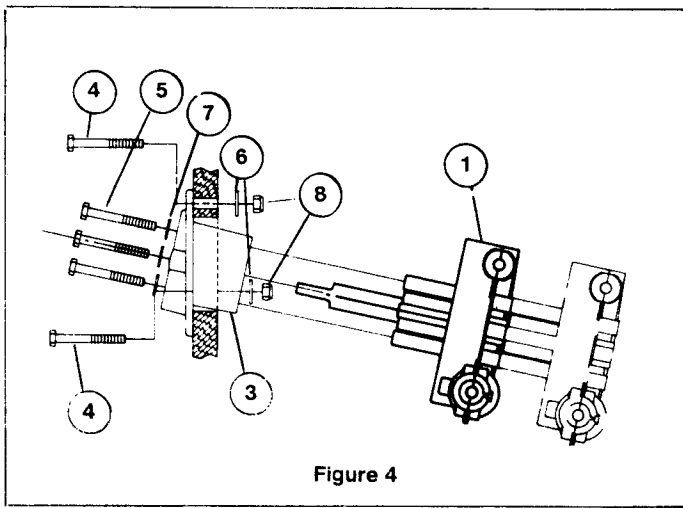

Figure 4
Secure the helm mounting bracket (item 3) in position using hex bolts (item 4), large flat washers (item 6) and locknuts (item 8). See Figure 4.
Insert shaft of helm (item 1) through hole in the Mounting Bracket orienting in the proper direction for steering cable entry and attach the helm securely to the mounting bracket using washers (item 7) and hex bolts (item 5) threaded into the helm. See Figure 4.